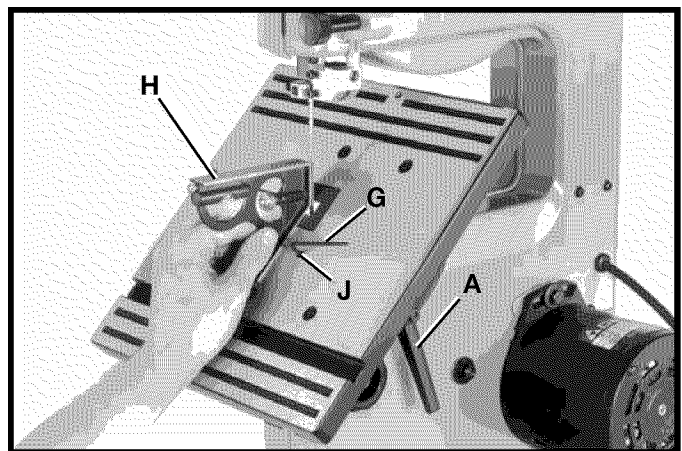

Fig. 33
3. Tilt the table to the 45 degree position as shown in Fig. 33. Place a square (H) on the table and against the blade and check to see if the blade is 45 degrees to the table surface. If an adjustment is necessary, proceed as follows:
4. Loosen lock nut on adjustment screw (J) Fig. 33, located on the underside of the table. With lock handle (A) Fig. 33, loose, turn adjustment screw (J) using wrench (G) provided until the blade is 45 degrees to the table. Then tighten lock handle (A), and lock nut on adjustment screw (J).